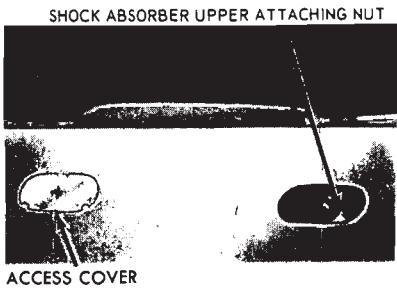

FIG. 8—Rear Shock Absorber
2. Fold back the floor mat and remove the shock absorber access cover from the floor pan. Remove the nut, outer washer, and rubber bushing that attach the shock absorber to the upper mounting in the floor pan (Fig. 8).
4. From the luggage compartment, install the bushing outer washer and new attaching nut to the upper mounting stud (Fig. 8). Torque to specification. On a station wagon, replace the floor bed panel (14 screws).